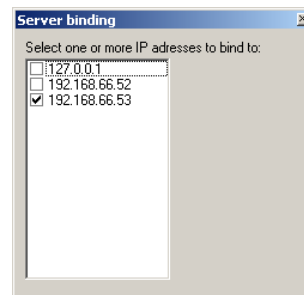

Figure 9: selecting IP addresses
In this screen (figure 9) which IP-addresses will be used for the server. The addresses mean the following:
- Is the SPL server active in the network? In figure 9 is shown on which addresses the SPL server should be reachable. If only '127.0.0.1' is selected the server can not be accessed over the network, just on the local computer.